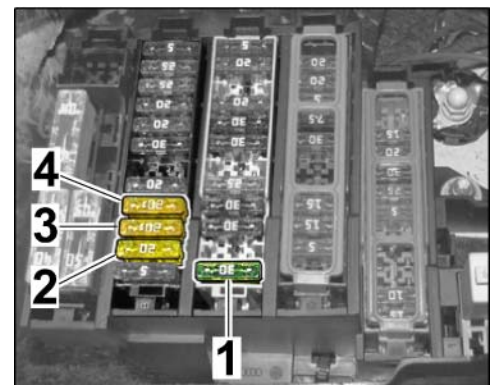

Figure 13
2.7 Secure towbar system as shown in *Figure 13* (⇒ *Figure 13*).